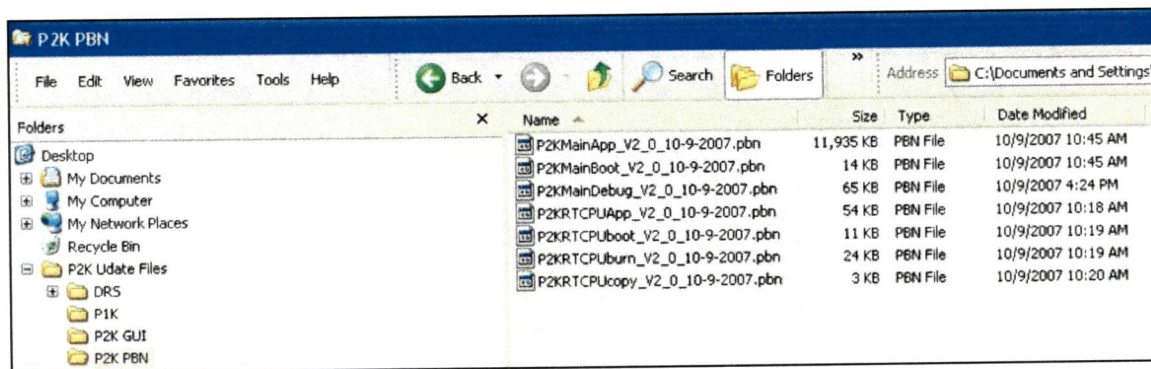

Figure 13. P2K PBN Folder Contents
- ☐ 2. Verify the P2K PBN folder you created in Paragraph 4 contains the files shown in Figure 13. All of these files are used in the update procedure.